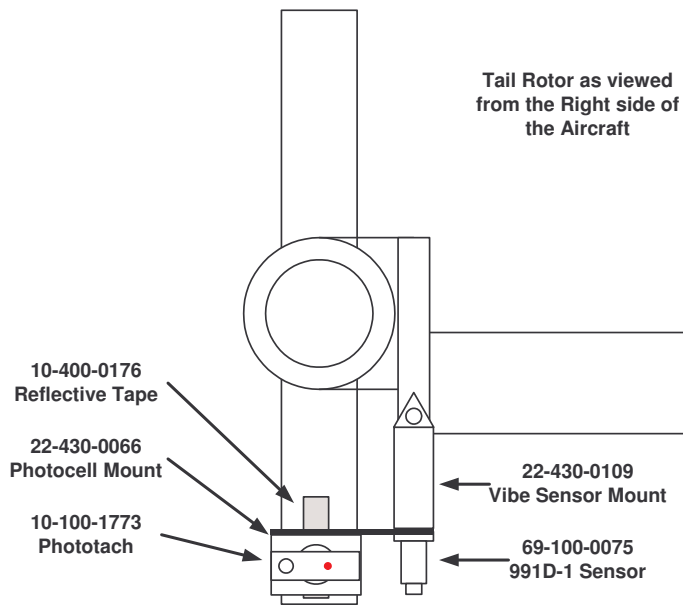
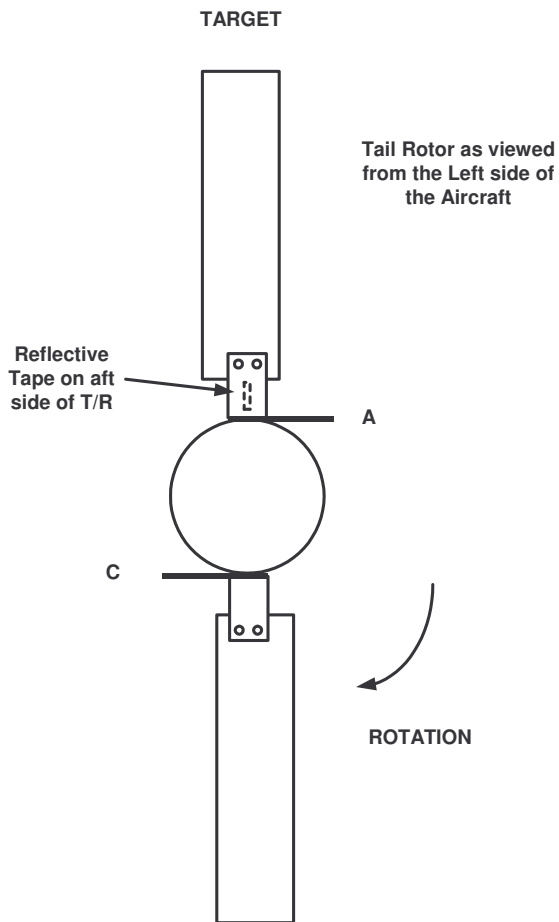

Figure 1
Figure 2
2. Install Triaxial Sensor Mount, Item 8, on the ¼” bolt mounting the Tail Rotor Guard to the Tail Rotor Gearbox. (See Figure 1)
3. Insert Vibration Sensor, Item 5, mounting stud through ¼” hole in PhotoTach Mount, Item 9. (See Figure 1)
4. Thread Vibration Sensor into bottom hole of Triaxial Sensor Mount. Clamp PhotoTach Mount between Vibration Sensor and Triaxial Sensor Mount. Locate ¾” hole in PhotoTach Mount to the Left of the Triaxial Sensor Mount as viewed from the Right side of the Aircraft. Insure connector of Vibration Sensor faces down. (See Figure 1)
6. Install PhotoTach, Item 3 into PhotoTach Mount facing tail rotor assembly. Secure with nylon nut or sunshield. (See Figure 1)
9. See paragraph D.3 below for additional instructions for placing reflective tape. (See also Figure 1 and Figure 2)
- a. Press [F1] “Tach On”. Align one blade with the phototach. (See Section B Figure 2)